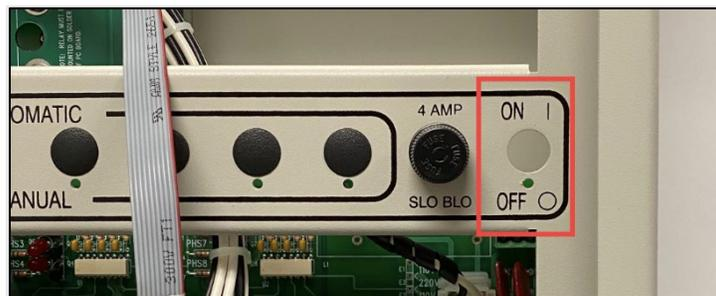

Figure 5 The Power Switch, Removed
1. Remove the power switch using a 9/16-inch socket wrench (Figure 5).